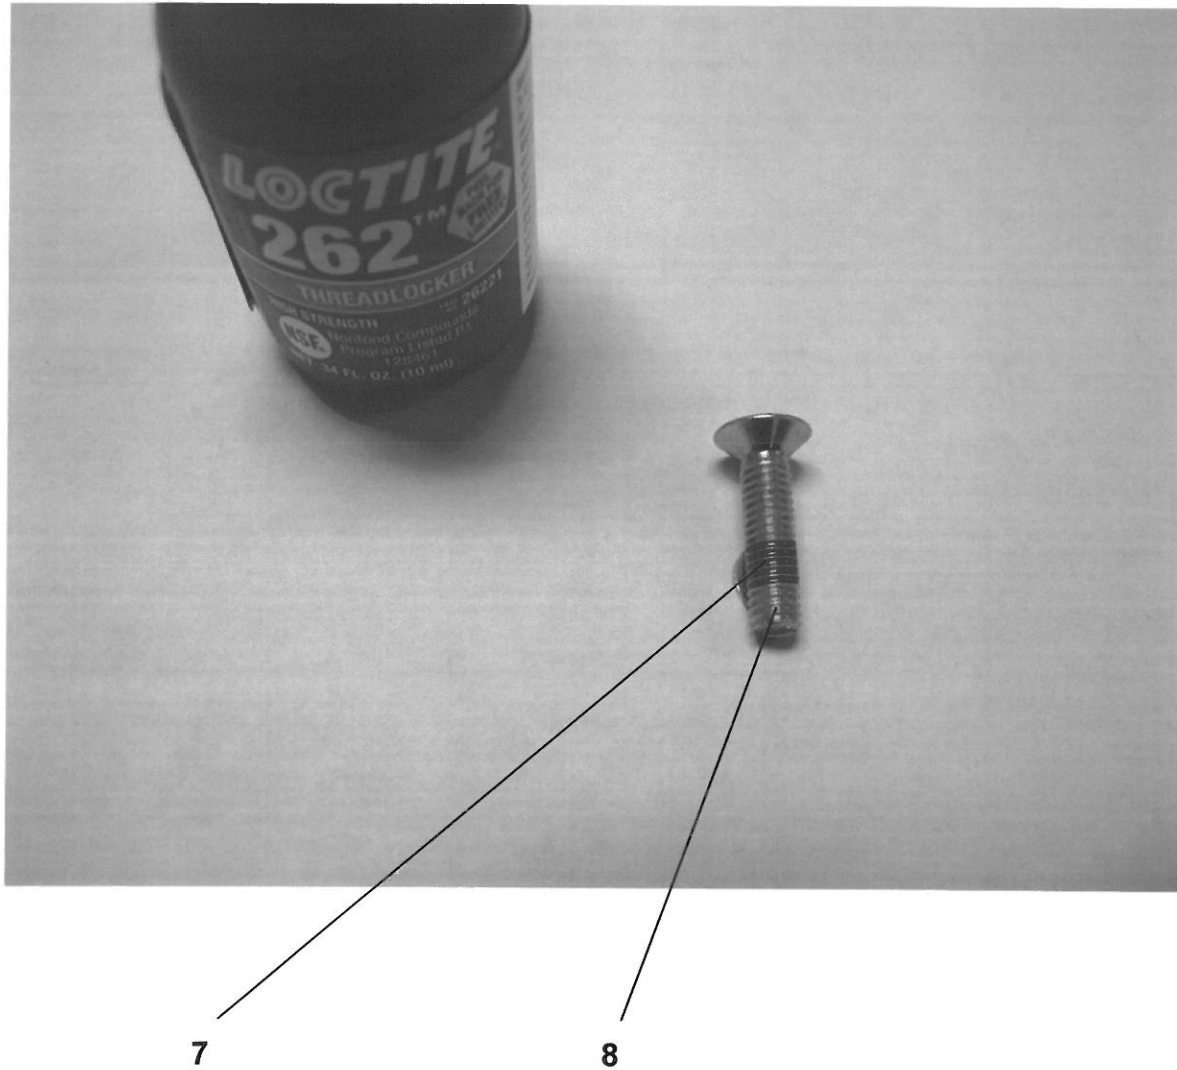

Fig. 15 Flat head hex socket cap screw six with a Loctite #262 (item 7) on its surface.
13. Place “Loctite” #262 (item 7, Fig. 15) on the surface of three new screws 8. Loctite should be placed on four to five threads located approximately 3/16” above the end of the screw, as shown in Fig.15.